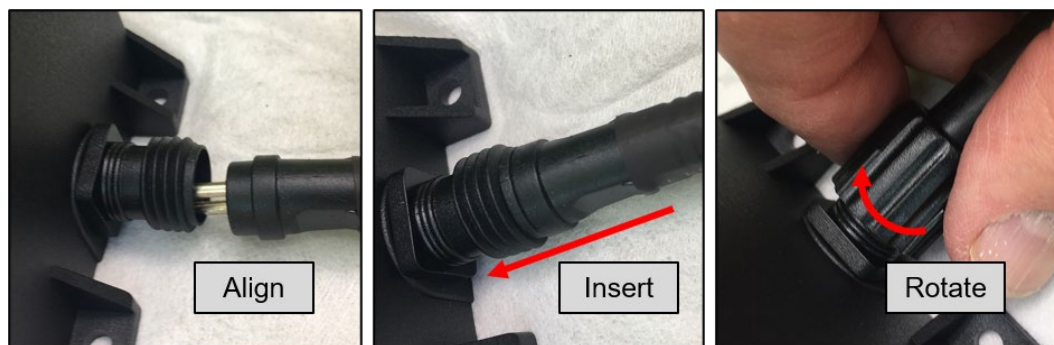

Figure 17 Connect Power Supply
- a. Align the griddle plug with the power supply holes (Figure 17 left)
- b. Insert the plug until it is fully seated (Figure 17 center)